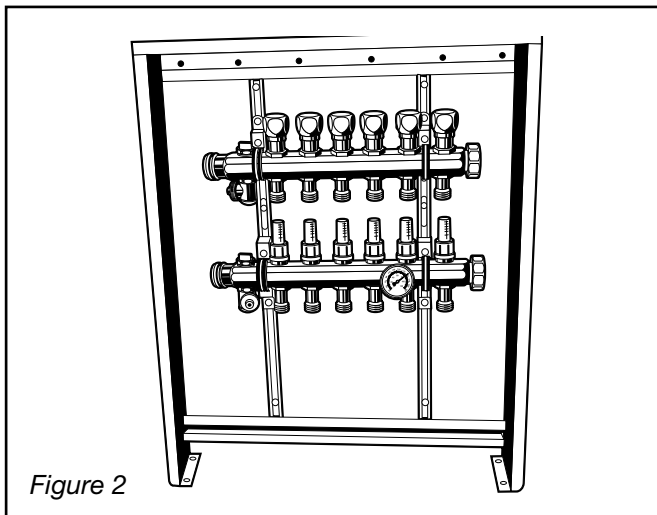

Figure 2
2. Using the hangers provided with the manifold, attach the manifold to the cabinet rails. See Figure 2.